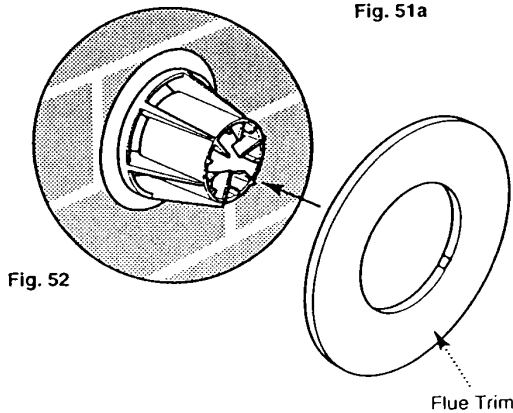

Fig. 52
10. The flue trim provided may be fitted if required, to neaten up the make-up around the terminal (Fig. 52).